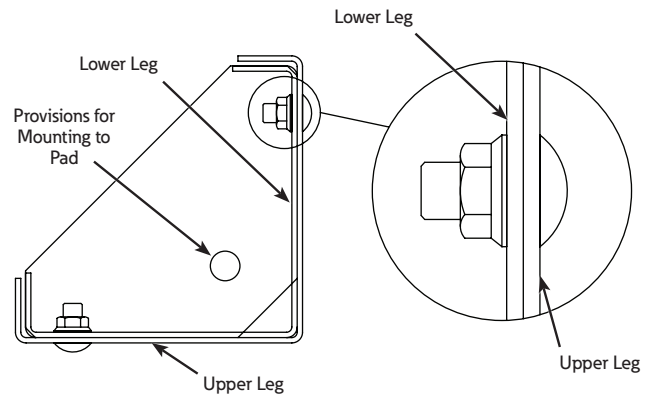

Figure 2. Assembly of lower leg to upper leg
8. Place a lower leg vertically, with anchor plate facing up, against the inside surface of the upper leg. Match the holes for desired stand height. Insert a carriage bolt with round head facing out through slot and square hole. Line up holes until the shoulder nests inside both parts (see Figure 2). Proceed as in steps 3 through 5 and repeat until all the lower legs have been secured in place. The assembly is now completed.
9. Turn assembly upright onto mounting pad or non-yielding footing. It is recommended that the lower leg mounting plates be secured to the pad with four (4) 1/2" diameter bolts (not provided) in order to ensure that the installation can withstand lateral wind and seismic loads. Refer to Table 2, Dimension "A" for reference mounting distance between bolts.
10. Lift the regulator onto the platform of the elevating structure. Secure the regulator to the center of the structure using four (4) 1/2" diameter bolts, the appropriate flat washers for the application, lock washers, and nuts. Tighten to 160-180 in-lb. Do not overtighten as the top mounting platform may deform.